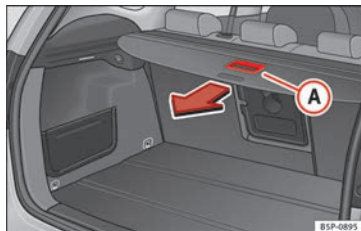

Fig. 105 Operating the storage compartment shelf.
- Use the handle (A) to pull the shelf back until you hear a “click” » Fig. 105.